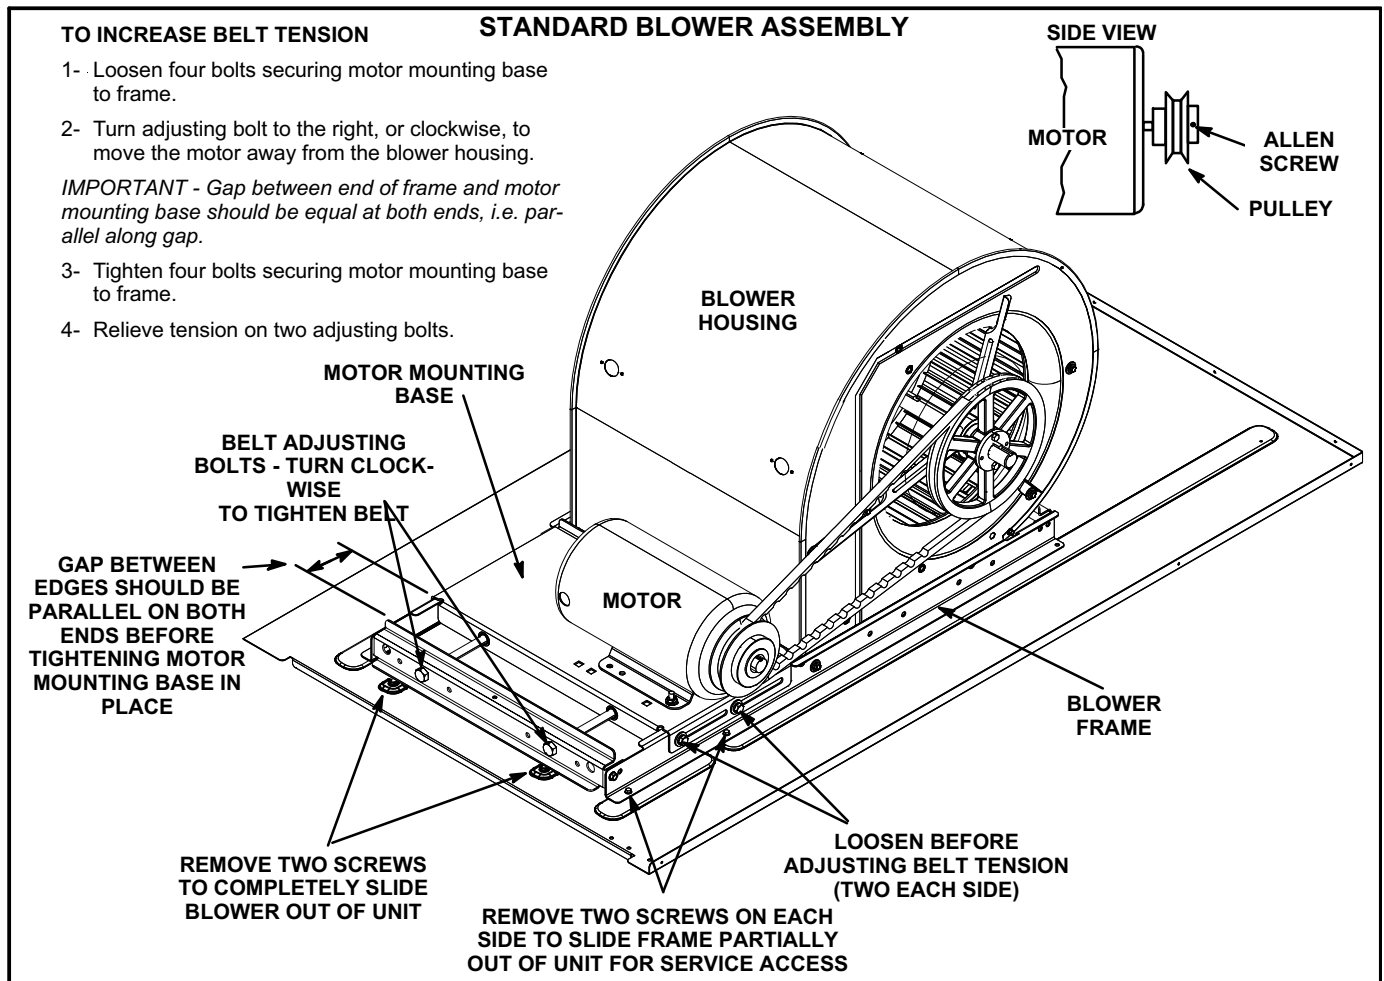

FIGURE 14
The blower assembly is secured to a sliding frame which allows the blower motor to be pulled out of the unit. See figure 14.
4- The blower RPM can be adjusted at the motor pulley. Loosen Allen screw and turn adjustable pulley clockwise to increase CFM. Turn counterclockwise to decrease CFM. See figure 14. Do not exceed minimum and maximum number of pulley turns as shown in table 3.
- 1- Loosen four bolts securing motor base to mounting frame. See figure 14.